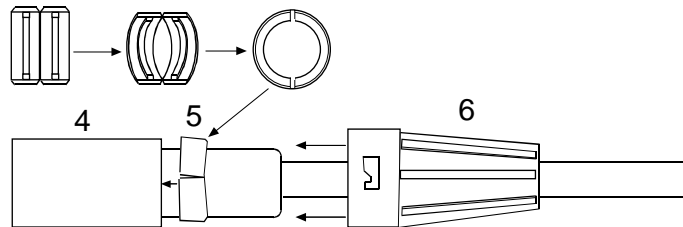

Figure A2: Proper Use of Compression Ring
2. Slide backshell (6) onto cable (**Figures A2 & A3**)
3. Slide rubber grommet (4) onto cable (**Figures A2 & A3**).
4. Slide twist-lock ring (2) onto cable (**Figures A2 & A3**).
9. Position compression ring (5) as shown in **Figures A2 & A3**. Note that the ring comes in two halves. Do NOT break them apart. Instead, fold them to make a ring, and position over the thin part of the rubber grommet.